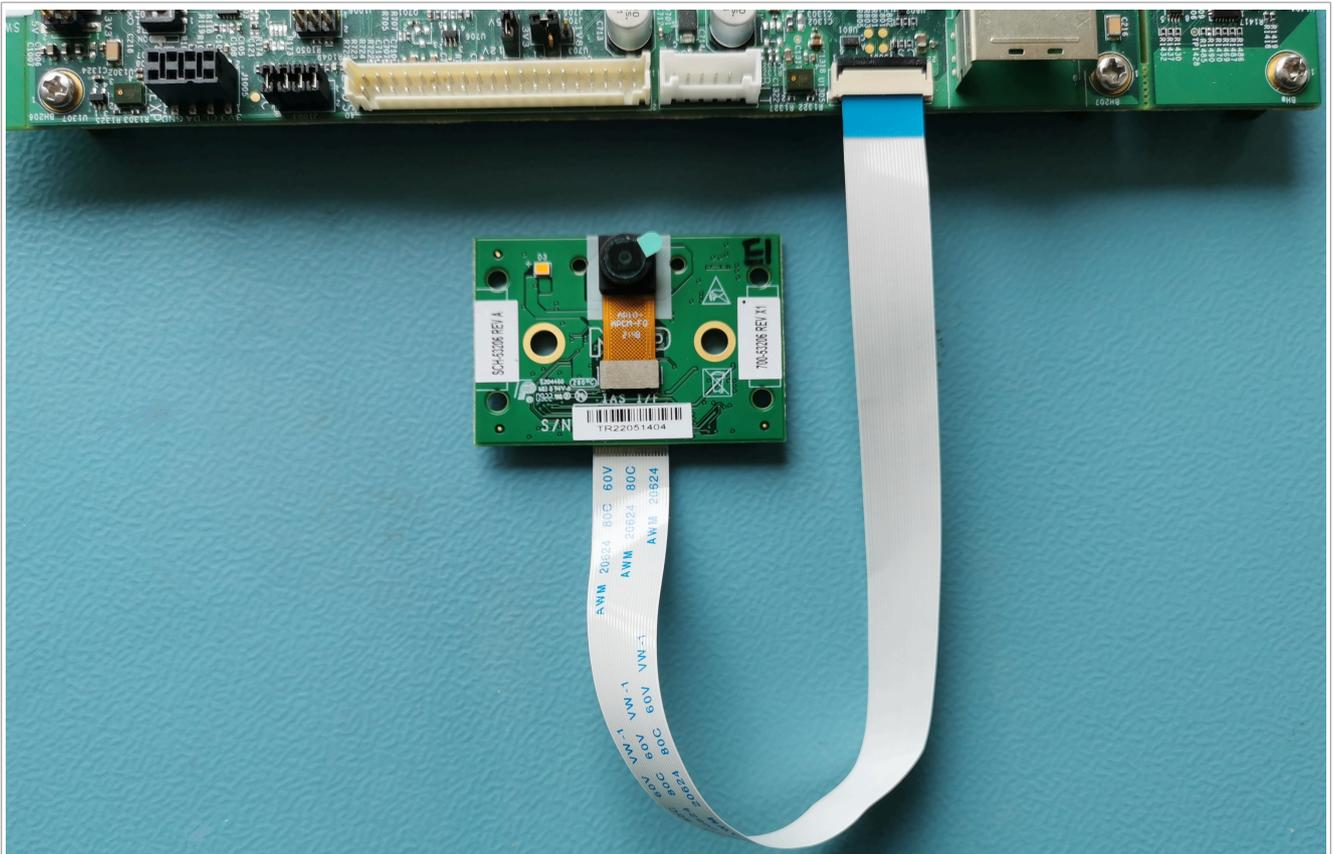
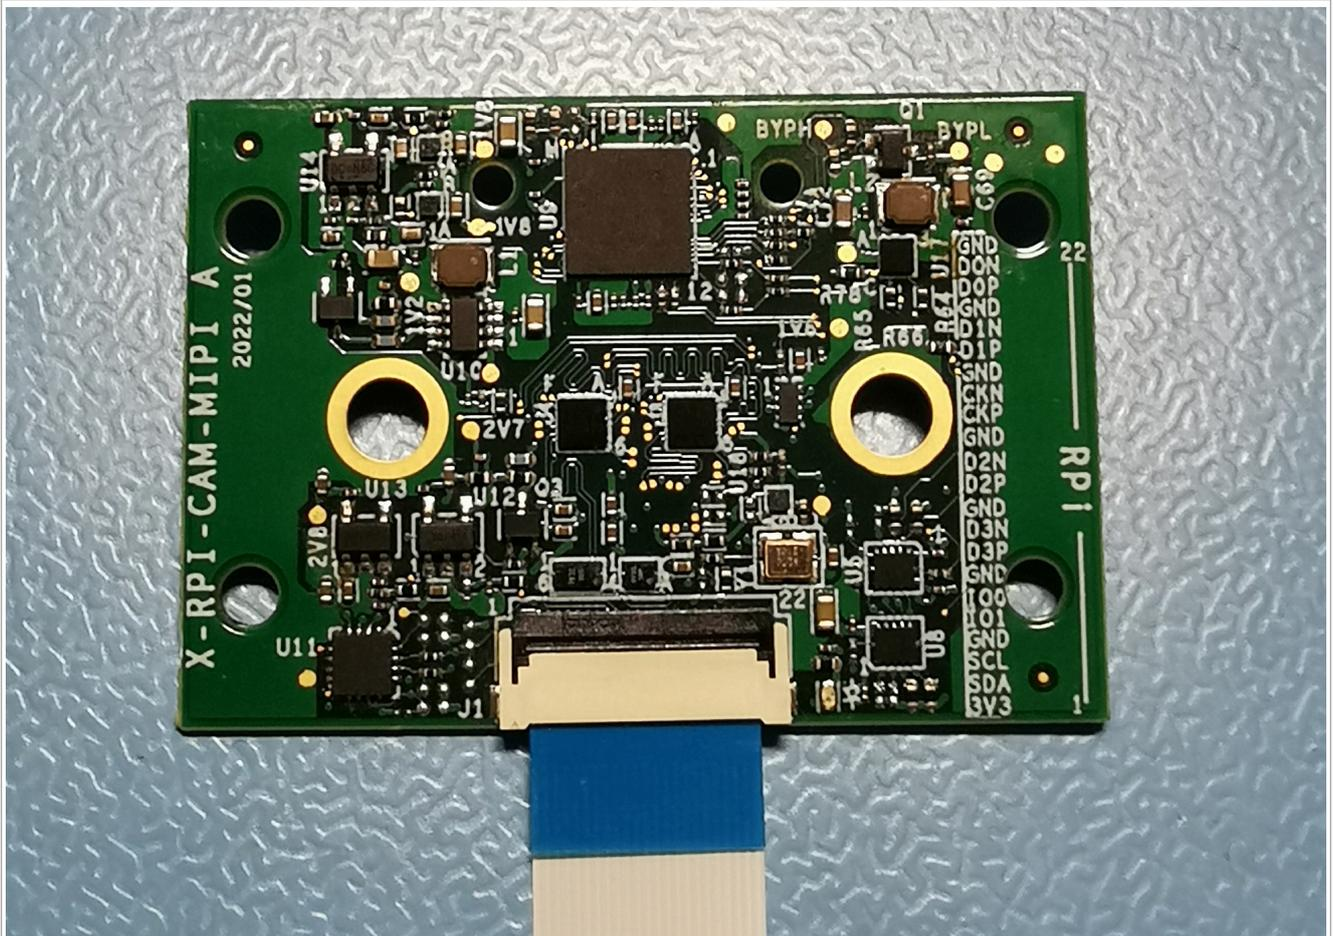

Figure 23. Connection of the ribbon cable on MX93\_11x11\_EVK board side
Figure 24. Connection of the ribbon cable on X-RPI-CAM-MIPI camera board side
**Note:** Be careful with the correct orientation of the ribbon cable to interconnect the X-RPI-CAM-MIPI with MX93\_11x11\_EVK. Check the blue bars on the ribbon cable with the MIPI CSI-2 connectors. The camera must be connected as depicted in Figure 23 and Figure 24.